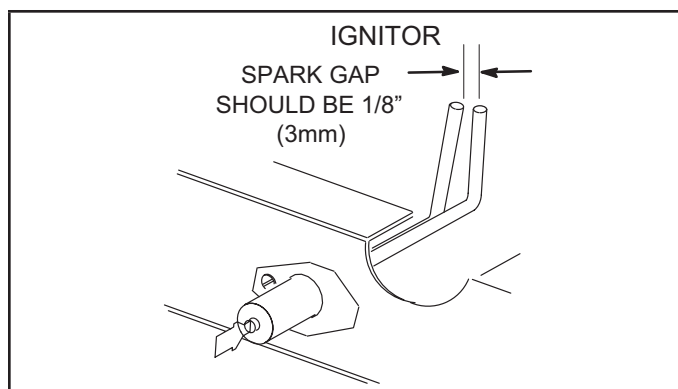

FIGURE 34
- 5 - Locate the ignitor under the right burner. Check ignitor spark gap with appropriately sized twist drills or feeler gauges. See FIGURE 34.